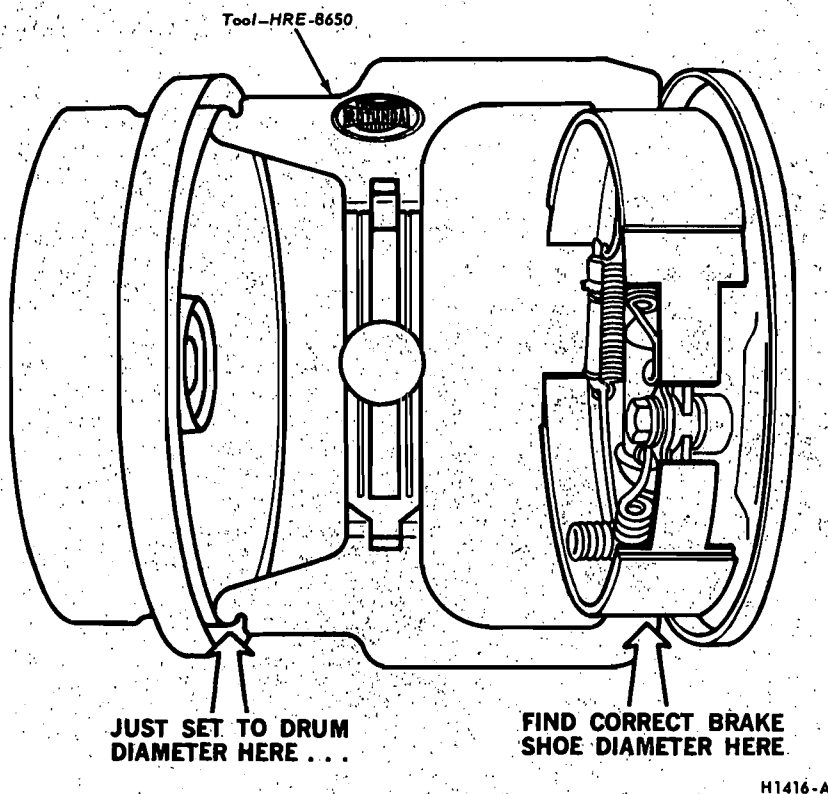

FIG. 11—Adjusting Brake Shoes Using Tool HRE-8650
1. Use Rotunda Tool HRE 8650, (Fig. 11) to determine the inside diameter of the drum braking surface.
2. Reverse the tool as shown in Fig. 11 and adjust the brake shoe diameter to fit the gauge. Hold the automatic adjusting lever out of engagement while rotating the adjusting screw, to prevent burring the screw slots. Make sure the adjusting screw rotates freely. If necessary, lubricate the adjusting screw threads with a thin, uniform coating of MIC-100-A.